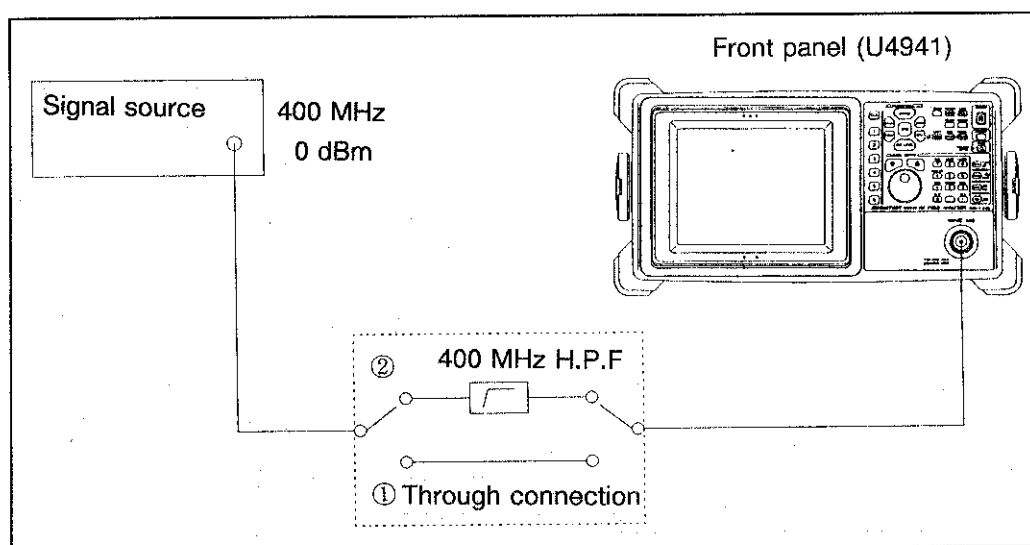

Figure 6-12 Connection of second order harmonic distortion measurement
- (1) First measure the level of the fundamental frequency component from the signal generator by making the direct connection of Figure 6-12, by passing the high pass filter.
- (2) Next insert a 400 MHz high pass filter (H.P.F.) into the analyzer input in order to cut off the fundamental frequency component. (Figure 6-12. switch position 2). If the second order harmonic distortion of the signal generator is sufficiently greater than the analyzer's distortion level then the high pass filter may not be necessary. But if the signal source has a clean output, or you wish to make the most accurate measurements possible, then always use the H.P.F. between the source and the spectrum analyzer in order to suppress the effects of any harmonic distortion from the analyzer.